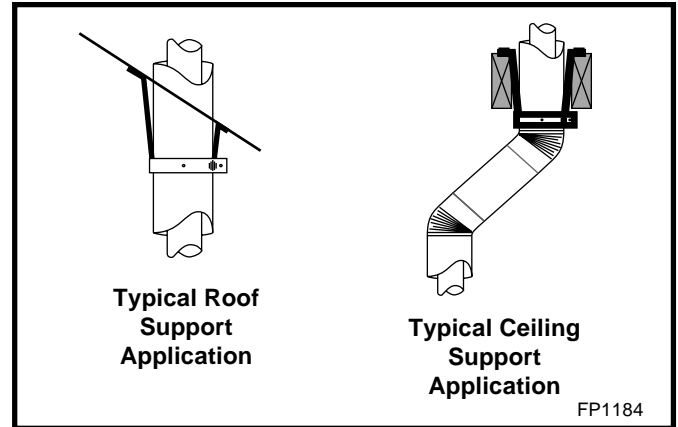

Fig. 38 Venting supports.
- 7DVCS supports offsets. (Fig. 38) This application will require that you first determine the roof pitch and use the appropriate starter kit. (Refer to Venting Components List)
7. Install roof support (Fig. 38) and roof flashing making sure upper flange is below the shingles. (Fig. 40)